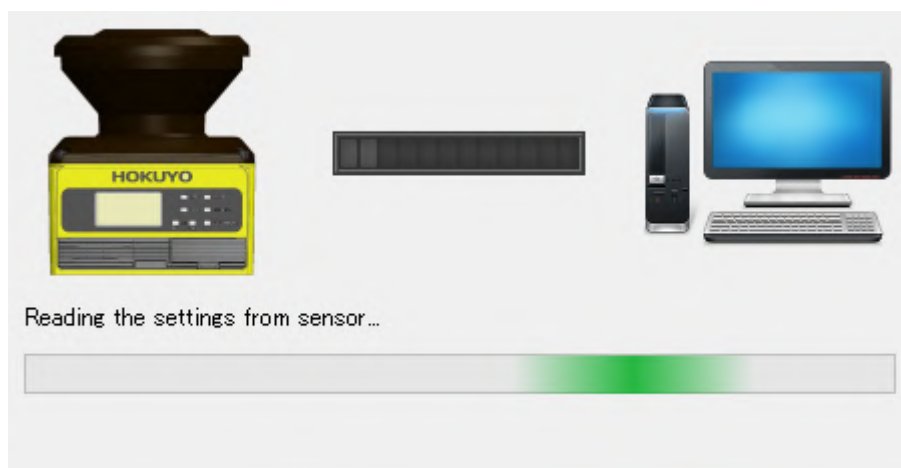

Figure 7-45 Reading the configuration of UAM
- b) Select Load settings on the sub panel window. Progress panel will appear (Figure 7-45) showing the state. If Load from FoE file button is clicked without connecting the UAM a dialog box will appear to read settings from the FoE file (refer to section 7.8.1).